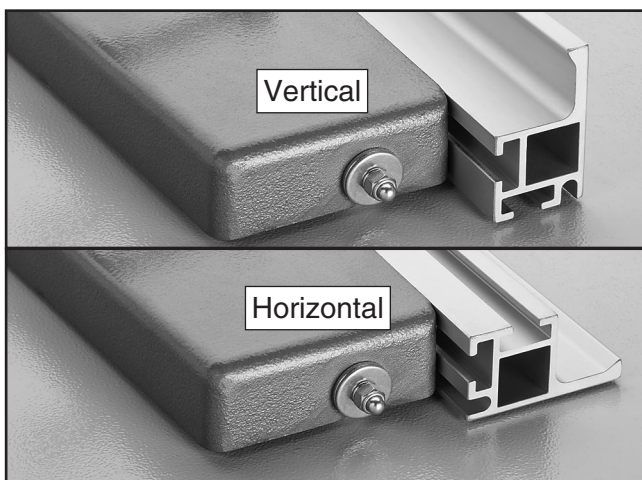

Figure 107. Rip fence positions.
4. Place fence in vertical position for thicker workpieces, or horizontal position for thinner workpieces and angled cuts where blade is tilted over fence (see **Figure 107**).